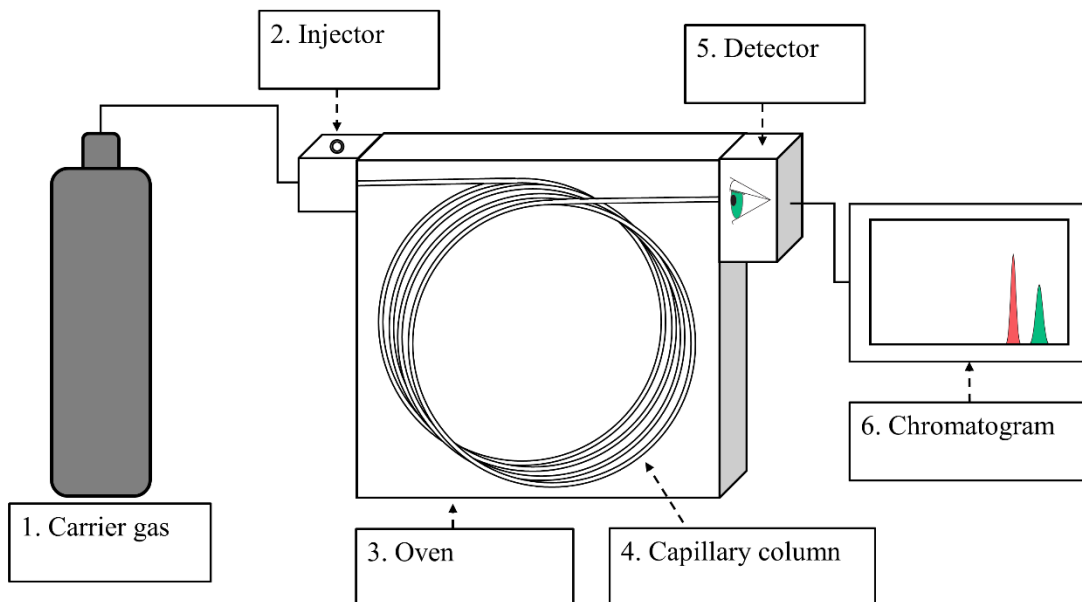

Figure 2. Schematic diagram of a gas chromatograph.
1. Consider the image of a GC in Figure 1. Identify each component on the picture of the gas chromatograph in Figure 2.
See labeled Figure 2.